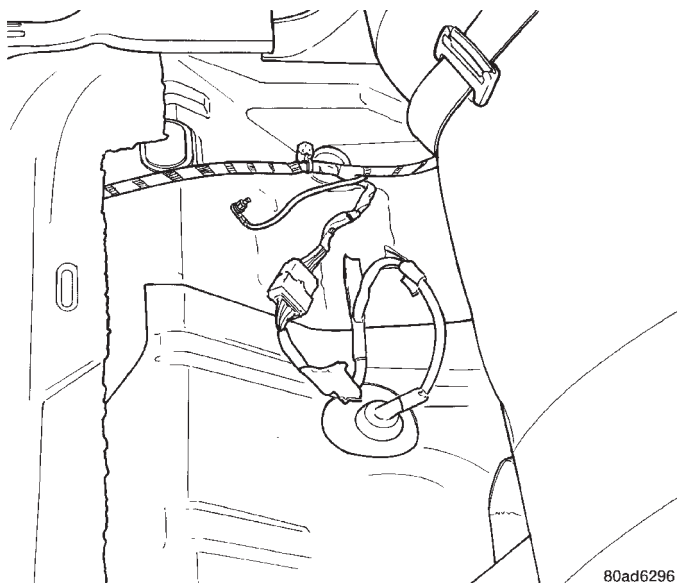

Fig. 22 Electrical Connector
(1) Release fuel pressure. Refer to Fuel System Pressure Release Procedure in Group 14, Fuel Delivery.
(2) Remove rear seat.
(3) Disconnect fuel pump electrical connector (Fig. 22).